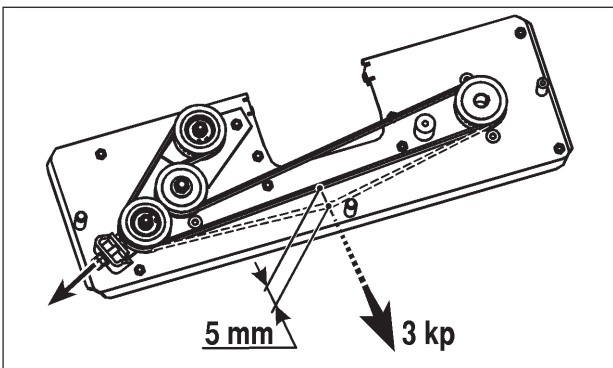

Fig. 33
MOWER DECK BELT (FIG. 33)
5. Adjust nut M10 until the specified tension at cog belt is reached. (See Fig 33)
Mower cog belt	See Fig 33